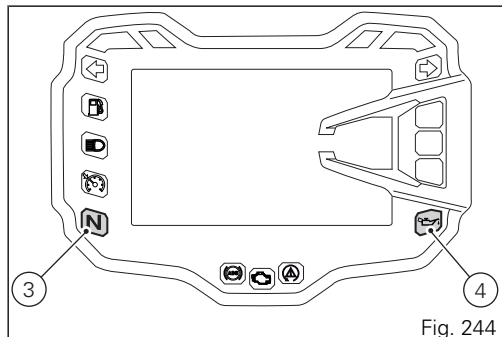

Fig. 244
The red oil pressure warning light (4, Fig. 244) should go out a few seconds after the engine has started. The engine will shut off by turning the red button (1) on the handlebar to RUN OFF. To turn on the "Hands free" system and all electronic onboard systems, refer to page 279 "Hands Free System".